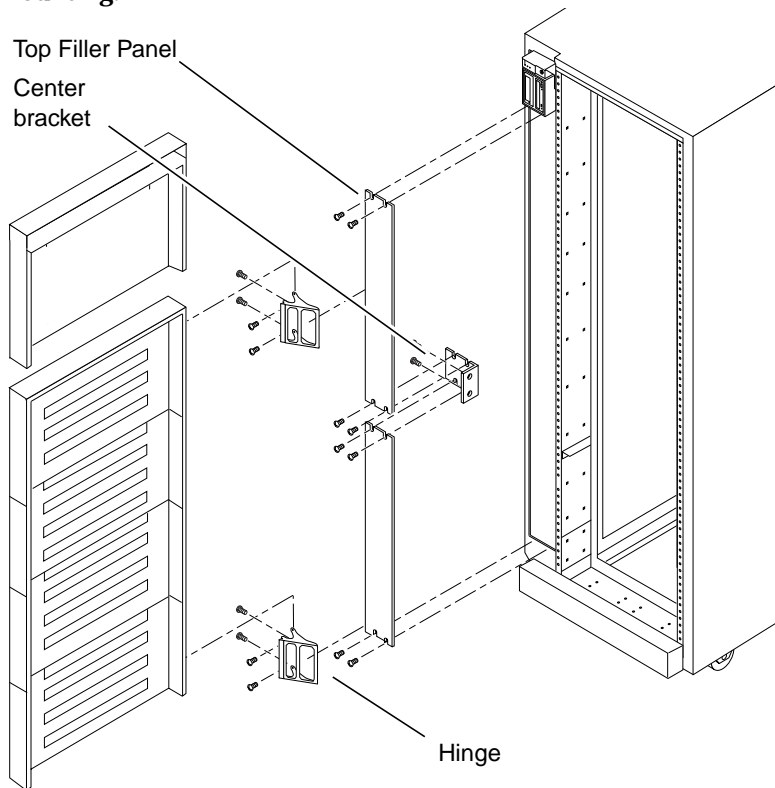

FIGURE 1-1 Removing Door and Filler Panels in the Sun Enterprise System Cabinet
- FIGURE 1-1 Removing Door and Filler Panels in the Sun Enterprise System Cabinet 2